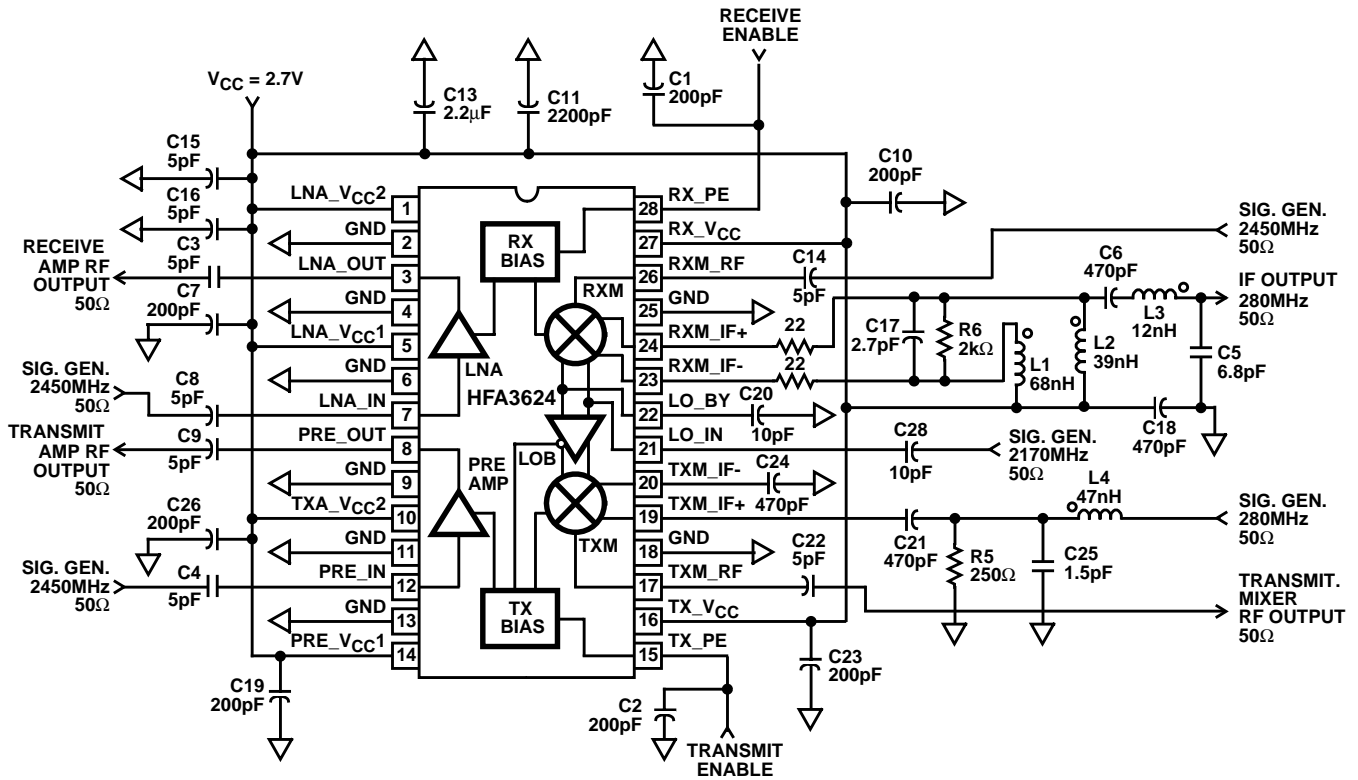

FIGURE 5. OPTIMIZED LAB EVALUATION CIRCUIT
- See Figure 5 Test Circuit for 50Ω IF matching network component values.
- Transmit mixer measured with Impedance Transform Network 250Ω at device to 50Ω at the source. Refer to Figure 5, pin 19.
- Implied limit, production measurement uses 50Ω termination at pin 19 (RS_{IF} = 50Ω). Typical transmit conversion gain increase of 5.5dB with application circuit Figure 5 (RS_{IF} = 250Ω).
- Enable/Disable Time Specifications are tested with the external component values shown in the Figure 5 Test Circuit, with an IF frequency of 280MHz. Specifically the AC coupling capacitors on the TXM_IF+ and TXM_IF- pins are biased up to operating voltage from a fixed internal current source at power up. Increasing these AC coupling capacitors above 1000pF will slow Enable Time proportionately.
NOTE: Transmit mixer measured with Impedance Transform Network 250Ω at device to 50Ω at the source. Refer to Figure 5, pin 19.